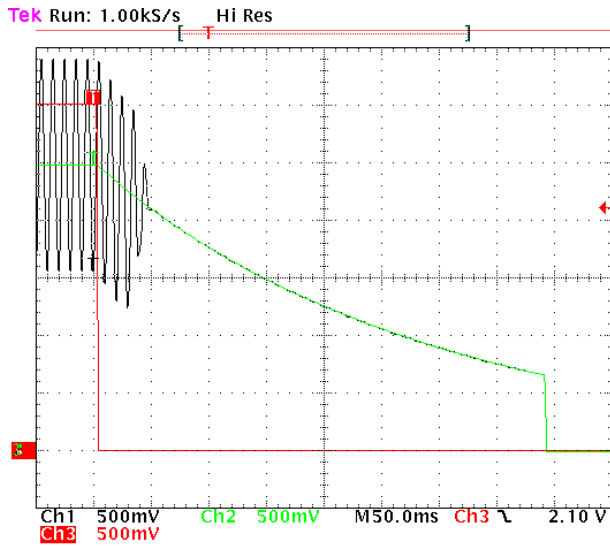

Figure 40. Turning-Off Time/ $V_p = 5.0$ V
- 385 ms later, the DC signal will reach 0.7 V due to exponential discharge of the bypass voltage. It is then tied to Ground as shown in Figure 40.